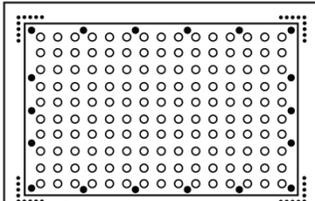

Fig. 1
2. Place tile on surface where it is to be installed and mark the corners. (Fig. 1)